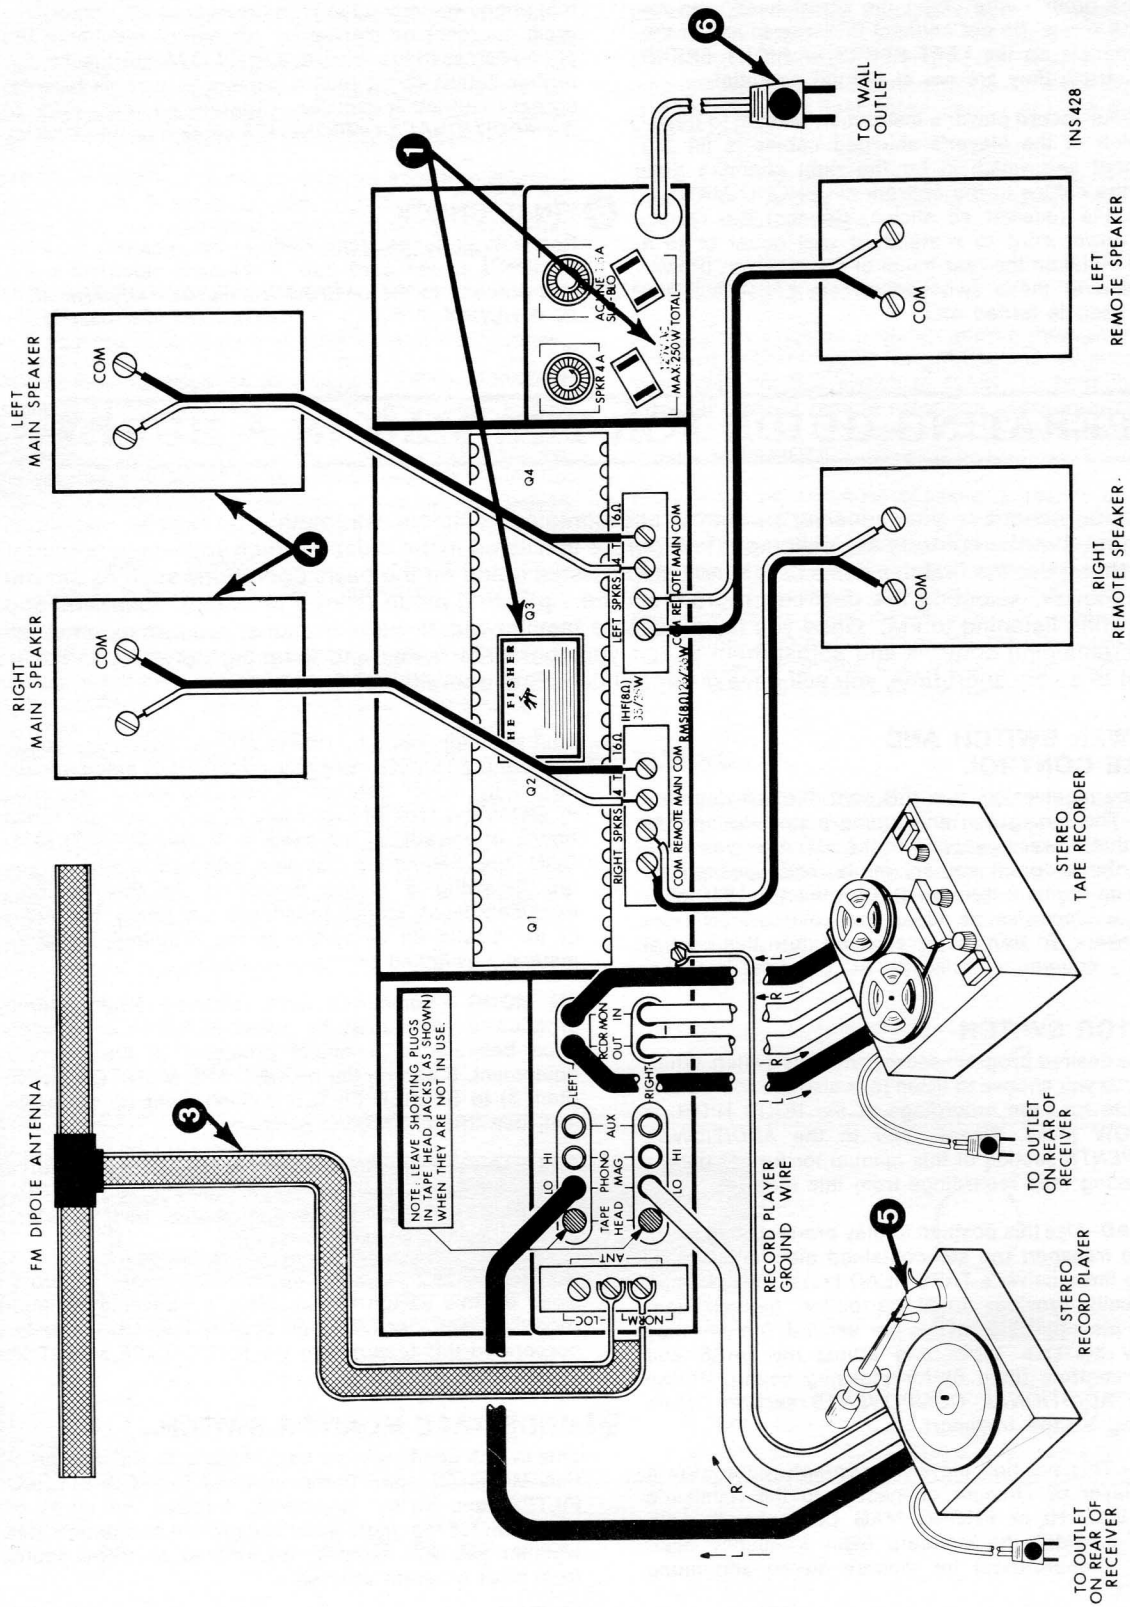

Figure 1. Rear Panel of the 500-T
We realize that you are anxious to play your new FISHER receiver and, frankly, we're quite flattered. At the same time we must warn you that a few precautionary measures are in order; those few extra minutes spent now in installing the receiver correctly will avoid needless disappointment later on and will assure years of enjoyable, trouble-free listening. To simplify your job, we have prepared this special pictorial procedure (keyed to Figure 1) — it will enable you to install the receiver in the least possible time with a minimum number of external connections. After completing the installation as outlined in this section, you may proceed directly to the next section, *OPERATING GUIDE FOR THE MAN IN A HURRY*. We do recommend, however, that you read the rest of this manual at your earliest convenience to ensure that you derive maximum possible enjoyment from your receiver.
To prevent any confusion when you connect the speakers, use the following definitions: The left main speaker is the one to your left as *viewed from your listening position*; conversely, the right speaker is the one to your right. (Figure 1 is a rear view of the speakers as well as of the receiver; for this reason their positions seem reversed.)
One of the terminals on your left main speaker may be marked COM, GND, C, or G or color-coded with a black dot. Connect this terminal to the COM terminal (next to MAIN) on the receiver's LEFT SPKRS terminal strip as shown in Figure 1. The other terminal on the speaker may be marked with the speaker's rated impedance (4, 8, or 16) or with a red dot; connect this terminal to the MAIN terminal on the LEFT SPKRS terminal strip. Connect the right main speaker to the receiver's RIGHT SPKRS terminal strip in the same manner; in other words, connect the speaker's COM or GND terminal to the appropriate COM terminal and the other speaker terminal to the MAIN terminal. Compare both speaker connections with the illustration; it is essential that they be connected this way for proper phasing.
To connect a record player using a *magnetic* cartridge, use Figure 1 as a guide. If the record player has a ground wire, loosen the hex-head screw near the bottom
be attached to the two terminal screws marked NORM on the ANT terminal strip (Figure 1). It is often helpful to tack the arms of the antenna to a strip of wood so that the antenna may be rotated in a horizontal plane to pick up the strongest signal and to avoid distortion caused by signal reflections. (When tacking down the antenna or the lead-in, be careful that the tacks do not go through either of the conductors in the antenna wire and also that the tack head does not cause a "short" from one conductor to the other.)
When two speakers are used in the same room or listening area, they must be connected to the receiver in such a way that their cones move back and forth *in unison*. This is known as phasing the speakers; it is essential for proper mono and stereo reproduction. In addition, each speaker should be connected to the correct terminal strip on the receiver so that you hear correct left-right placement of voices and instruments on a stereo broadcast or recording. To accomplish both of these things, use Figure 1 as a guide and perform the following procedure:
If you are using only one pair of extension speakers, you may connect them to the receiver as shown in Figure 1. Connect the left speaker to the REMOTE and COM terminals on the LEFT SPKRS terminal strip and the right speaker to the corresponding REMOTE and COM terminals on the RIGHT SPKRS terminal strip. As with the main speakers, make sure that the extension speakers are in phase with each other by connecting the COM or GND terminal of each speaker to its corresponding COM terminal on the receiver as shown in the illustration. To check for correct speaker phasing and left-right stereo placement, use the procedures described in the paragraphs entitled *CONNECTING TWO MAIN SPEAKERS*, but set the SPEAKERS switch to REMOTE instead of to MAIN.
(1) Check to see if your record player has a ground wire (often green in color, with a spade lug at the free end). If it does, loosen the hex-head screw near the bottom center of the rear panel, (Figure 1); then slip the spade lug of the wire under the screw head and retighten the screw. *This is important if you wish to enjoy hum-free sound from your records.*
(2) Connect the shielded cables of the record player to the receiver's left channel and right channel PHONO MAG LO input jacks as shown in Figure 1. Usually, the instruction book that accompanies the record player will tell which cables to connect to the left-channel and right-channel jacks, respectively. If, for some reason, you cannot determine which is the left-channel or right-channel cable, temporarily connect them at random; you will be able to check for correct left-right stereo placement in step 4.
(3) Connect the record player's power cord to a standard wall outlet or to a free outlet on the rear panel of the receiver. In either case, keep the power cord as far as possible from the shielded cables that go to the receiver.
(4) Turn the receiver on, set the MODE/TAPE MONITOR switch to STEREO and the SELECTOR switch to PHONO; play a *stereo* symphonic or orchestral recording on the turntable and adjust the receiver's VOLUME control for a comfortable listening level. Listen to the placement of the violins; if they seem to be coming from or near the left speaker (again, left as viewed from your listening position), the phono cables are connected properly. If they seem to be coming from the right, switch the phono cables at the rear of the receiver.